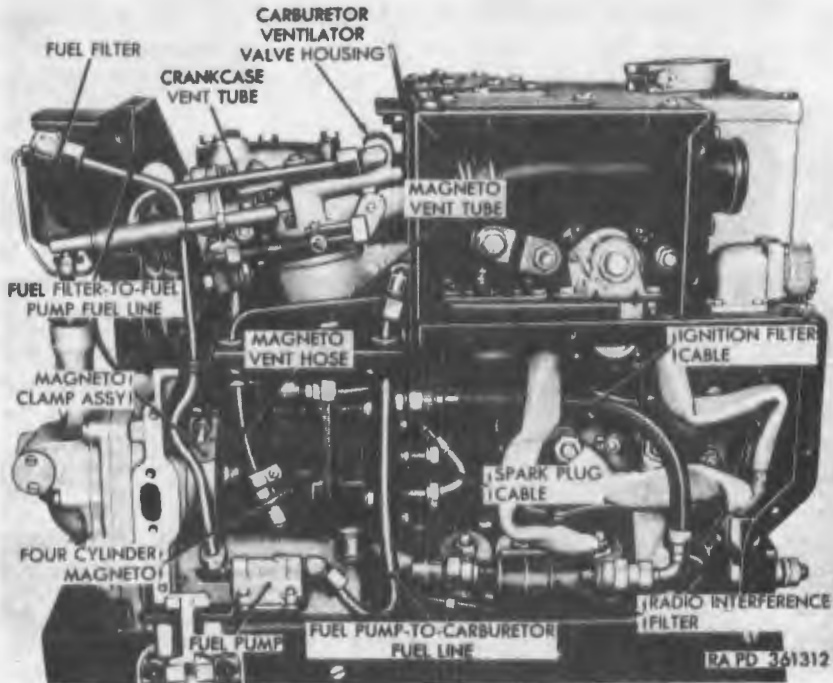

Figure 165. Fuel and ventilating lines—early engines.
- (1) *Removal.* Open engine compartment grille doors (fig. 236) over auxiliary generator and engine. Disconnect from elbows on fuel filter, union to fuel filter fuel line (fig. 169), and fuel filter to fuel pump fuel line (fig. 165). Loosen two
- (2) *Installation.* Install $\frac{1}{16}$ -inch internal-teeth lockwasher and $\frac{1}{16}$ -inch hex nut on each fuel line fitting of fuel filter (fig. 165). Install $\frac{1}{16}$ -inch internal-teeth lockwasher and $\frac{1}{16}$ -inch hex nut on each elbow and install elbows on fuel filter. Position fuel filter on mounting bracket so that bracket is between inner and outer hex nuts and lockwashers. Tighten hex nuts to hold filter in place. Connect union to fuel filter fuel line (fig. 169) and fuel filter to fuel pump line (fig. 165) to fuel filter elbows. Operate auxiliary generator and engine (par. 70) and check fuel lines, connections, and filter for leaks. Stop engine after test and close grille doors.
a. General. The crankcase ventilating system consists of a crankcase vent tube (fig. 158) connected to the carburetor ventilator valve housing (fig. 165) and the upper portion of the oil filler tube. The magneto ventilating system consists of two magneto vent tubes and hose (fig. 165) which are joined together to form an inlet and outlet from the magneto to the carburetor.
- (1) *Removal.* Remove auxiliary generator and engine (par. 188a). Loosen locking screw and remove choke control cable wire from trunnion of choke control lever assembly (fig. 159). Remove two panhead screws with integral lockwashers and lift off choke control lever assembly. Remove four panhead screws with integral lockwashers and remove carburetor guard (fig. 158). Remove 18 panhead screws with integral lockwashers and lift off upper left panel (fig. 159). To remove the magneto vent hose (fig. 165), loosen hose clamps and pull hose away from vent tubes and magneto elbows. To remove magneto vent tubes (fig. 165), unscrew the connector nuts at the carburetor, remove the rubber grommets, and remove the magneto vent tubes.
- (2) *Installation.* Position magneto vent tubes (fig. 165) and tighten vent tube connector nuts at carburetor. Place rubber grommet around vent tube and press in place. Install magneto vent hose (fig. 165) with hose clamps, onto magneto elbows and vent tube ends. Tighten hose clamps to secure magneto vent hose. Install upper left panel (fig. 159) using eighteen $\frac{1}{4}$ x $\frac{1}{2}$ panhead screws with integral lockwashers. Install carburetor guard (fig. 158) using four $\frac{1}{4}$ x $\frac{1}{2}$ panhead screws with integral lockwashers. Position choke control lever assembly (fig. 159) on guard and secure with two $\frac{1}{4}$ x $\frac{1}{2}$ panhead screws with integral
- (4) Disconnect cable No. 422 (fig. 168) from magneto terminal on 1-cylinder magneto (N, fig. 160) by unscrewing connector nut and pulling plug from receptacle. On those units equipped with 4-cylinder magnetos, disconnect cable No. 422 from radio interference filter (fig. 165) by unscrewing connector nut and pulling plug from filter receptacle.
- (14) Connect cable No. 422 (fig. 168) to 1-cylinder magneto (N, fig. 160) by inserting connector plug into receptacle and tightening cable connector nut. On those units equipped with 4-cylinder magnetos, connect cable No. 422 to radio interference filter (fig. 165) by inserting connector plug into receptacle and tightening cable connector nut.
- (1) *Early engines.* The auxiliary generator and engine fuel lines on engines installed in vehicles through Ordnance serial No. 866 consists of a flexible fuel line (fig. 169), union to fuel filter fuel line (fig. 169), fuel filter-to-fuel pump fuel line (fig. 165), and fuel pump to carburetor fuel line (fig. 165). Fuel for the early engines is drawn from the main engine fuel filter.
- (1) ***Removal.*** Remove auxiliary generator and engine (par. 188a). Unscrew connector nut securing flexible fuel line (fig. 169) to union and remove fuel line. Unscrew connector nuts at fuel filter and union, remove two panhead screws with integral lockwashers securing tube clips to panels, and remove union-to-fuel filter fuel line (fig. 169). Remove two panhead screws with integral lockwashers securing choke control lever assembly (fig. 159) to carburetor guard and remove lever assembly. Remove 18 panhead screws with integral lockwashers and remove upper left panel (fig. 159). Unscrew connector nuts securing fuel filter-to-fuel pump fuel line (fig. 165) at filter and fuel
pump, and remove fuel line. Unscrew connector nuts securing fuel pump-to-carburetor fuel line (fig. 165) at outlet of fuel pump and inlet of carburetor and remove fuel line.
- (2) *Installation.* Before installing any fuel lines, coat threaded ends lightly with gasket cement to prevent possible leakage. Position fuel pump to carburetor fuel line (fig. 165) and secure by tightening connector nuts at each end of fuel line. Position fuel filter to fuel pump fuel line (fig. 165) and secure by tightening connector nuts at each end of fuel line. Attach union to fuel filter fuel line (fig. 169) to inlet of fuel filter and union at side of auxiliary generator and engine; and secure with connector nuts at both ends. Install two tube clips on fuel line and secure to panels with two $\frac{1}{4}$ x $\frac{1}{2}$ panhead screws with integral lockwashers. Attach flexible fuel line (fig. 169) to opposite end of union and secure with connector nut. Position upper left panel (fig. 159) on unit and secure eighteen $\frac{1}{4}$ x $\frac{1}{2}$ panhead screws with integral lockwashers. Position choke control lever assembly (fig. 159) and secure with two panhead screws with integral lockwashers. Install auxiliary generator and engine (par. 188b).